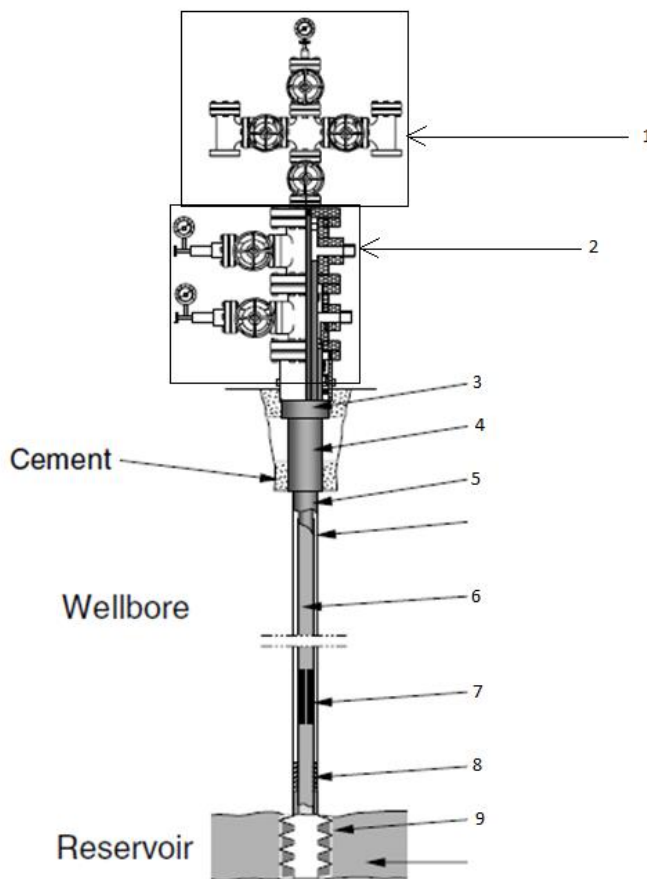

Fig No.1
1. In the below figure No.1 write what are the names of 1 to 9. What does well head include? What is the use of Christmas tree? Write one advantage of bottom-hole choke, upstream burner and downstream burner?